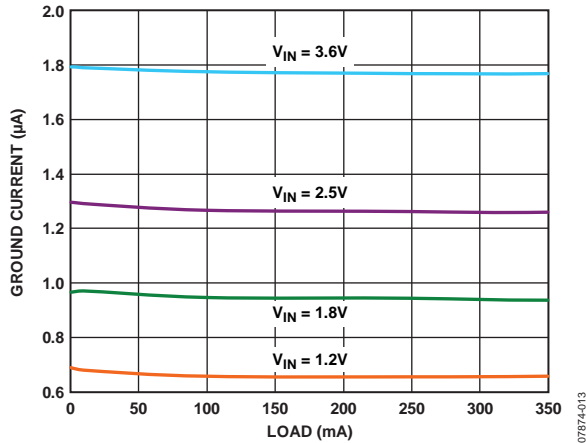

Figure 19. Ground Current vs. Load Current
The major source for ground current in the ADP190/ADP191 is the 4 MΩ pull-down on the enable (EN) pin. Figure 19 shows typical ground current when  $V_{EN} = V_{IN}$  and  $V_{IN}$  varies from 1.1 V to 3.6 V.